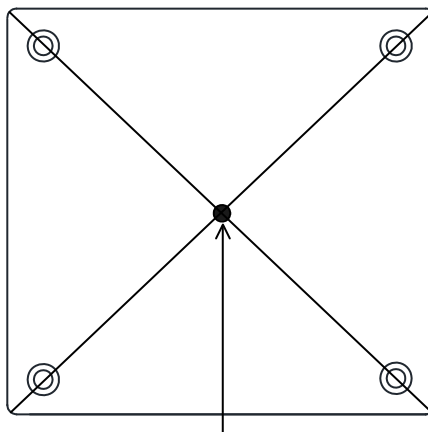

Fig.7-23 Measurement Point of Base-plate Temperature
- Note) Maximum base-plate temperature is 100 °C. For worst case operating condition, verify base-plate temperature at measurement point indicated in Fig. 7-23. Moreover, ambient air temperature shall be confirmed at a point 10 mm or less from the power supply side. Use below 85°C ambient temperature.